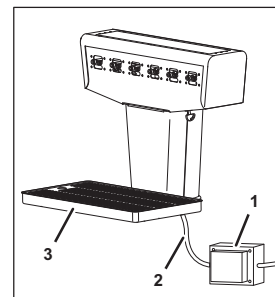

Fig. 9
10. Position the drip tray (Fig. 9/3) with grill on the unit; see chapter 7.1.
11. Connect the electrical cable (Fig. 9/2) to the transformer (Fig. 9/1) in the undercounter cooler.